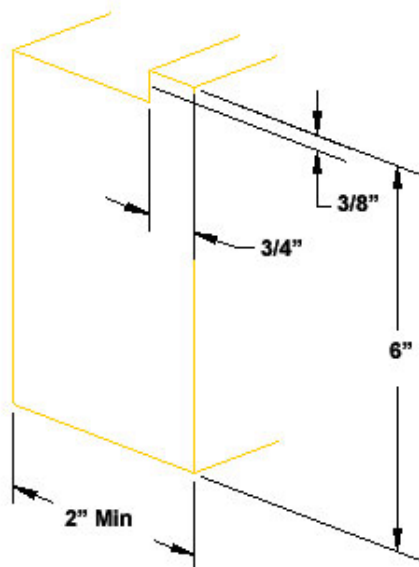

Figure 23
- e. Notch the top of the Closure Block to accept the Dryvit Track, as shown in Figure 23. **NOTE: Dryvit Starter Strips can be used above windows, doors, etc.** This will minimize the required field notching to only L-shaped closure blocks at the corners.